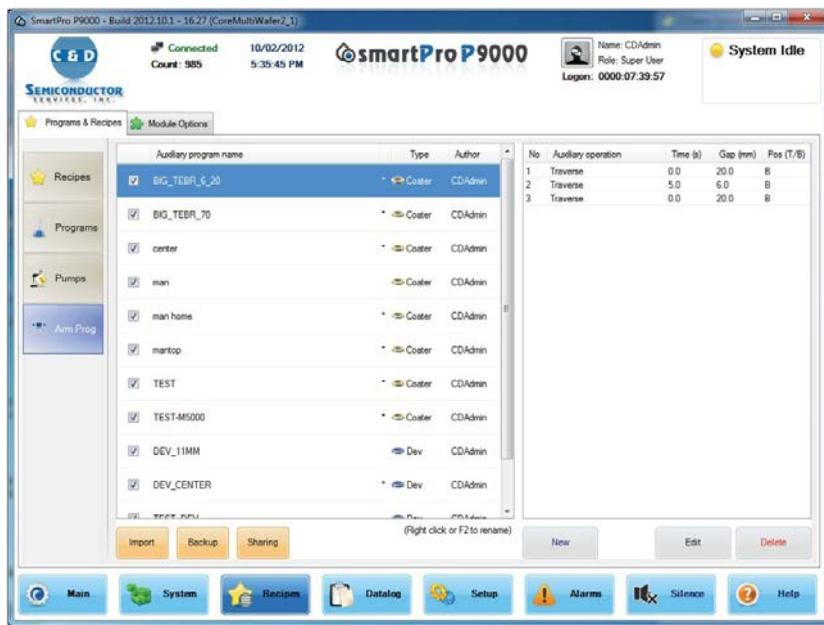

FIGURE 3-2: The arm programs page
2. From the side menu, click the Arm Program tab, as shown in Figure 3-2.